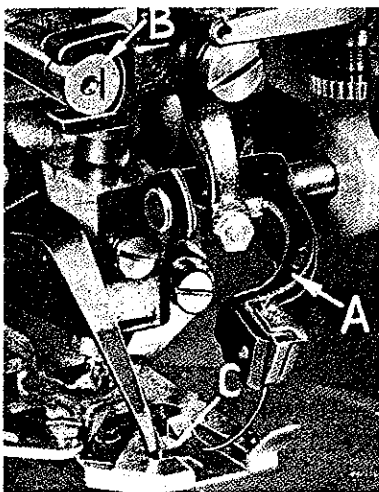
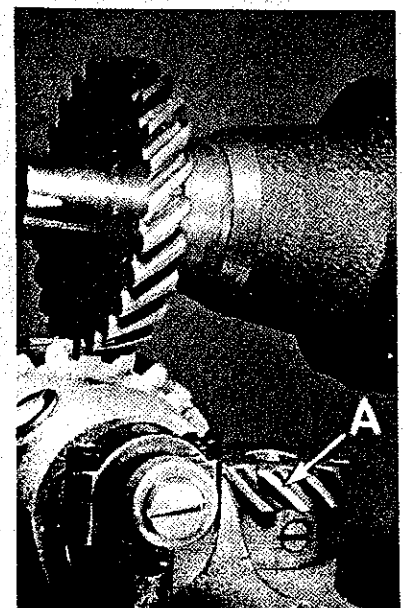
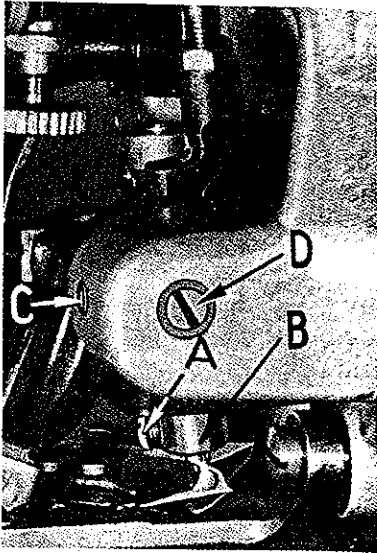

Fig. 3
Fig. 6
Fig. 7
Loosen set screws in the looper drive shaft gear (A, Fig. 6). Turn pulley in operating direction until needle has reached the forward end of its left side travel and returned  $\frac{3}{32}$  inch. Turn looper and its shaft so that the point of looper is over center of needle, and tighten set screws in gear (A). Lower point of looper as close to the needle as possible without deflecting the needle. Loosen screw (A, Fig. 7) to make this adjustment.
To check adjustment of needle height, turn the pulley in operating direction until screw (A, Fig. 7) in looper driving gear (B) points to right of machine. At this point the needle point should be approximately  $1/16$  inch past the front edge of needle guide (C, Fig. 3) on presser foot, and just contacting needle guide.
If needle point strikes needle guard too far forward of the  $1/16$  inch dimension, or too hard, an adjustment can be made by loosening set screw (C, Fig. 7) and inserting a screwdriver in slot of needle carrier eccentric shaft (D). Turn eccentric shaft as required to bring needle carrier up or down and tighten set screw. After making this adjustment check and be sure there is no play between needle and needle guide when needle point is over center of plunger No. 26-173. After making this adjustment it may be necessary to reset the adjustment under "Adjust Stroke of Needle" and "Timing the Looper".